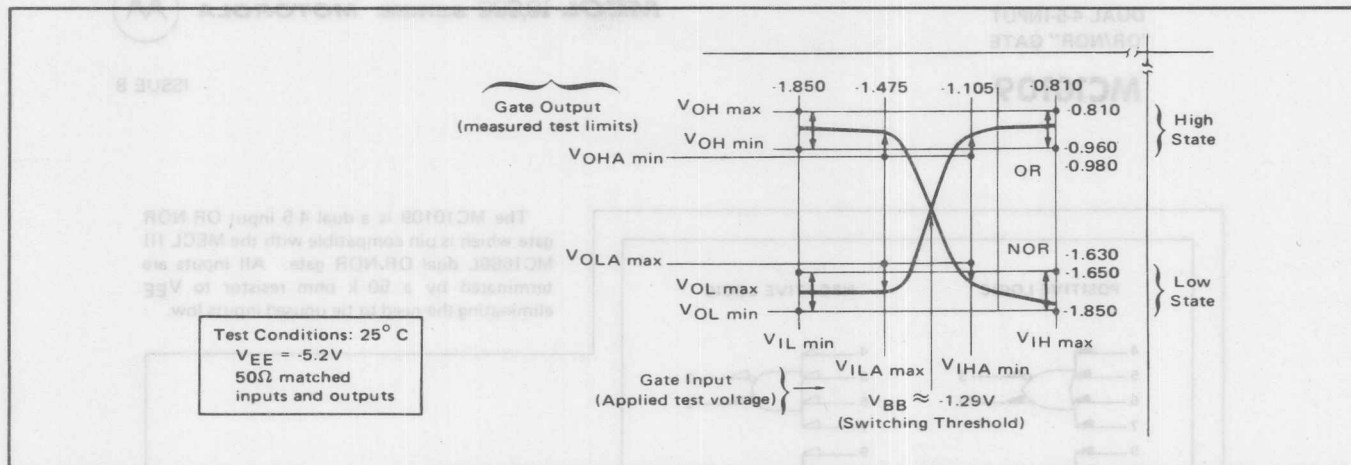

FIGURE 2 — MECL 10,000 transfer curve and specification points.
To show the transfer characteristics of a MECL gate, a curve may be obtained showing output levels versus input levels for both the OR and NOR outputs. Referring to Figure 2, the transfer curve for a MECL 10,000 gate is
The specified limits for output voltages are shown in Figure 2. The high output level will fall between  $V_{OHmax} = -0.810$  V and  $V_{OHmin} = -0.960$  V, and the low output level will be between  $V_{OLmax} = -1.650$  V and  $V_{OLmin} = -1.850$  V. These are the normal operating levels for MECL 10,000 (25°C) and output voltages remain within the preceding limits as long as the inputs stay within normal logic levels.
3. **High Output Voltage** – The minimum and maximum  $V_{OH}$  limits are given at 25°C and the commercial range temperature extremes, -30°C and 85°C. MECL 10,000 levels track with temperature, therefore, different limits are listed for the various temperatures. The  $V_{OH}$  level at 25°C falls in the band of voltage between  $V_{OHmax}$  and  $V_{OHmin}$  as shown in the transfer curve (Figure 2).
$V_{OL}$  falls in the lower band of voltage between  $V_{OL,max}$  and  $V_{OL,min}$  at 25°C as shown in Figure 2.